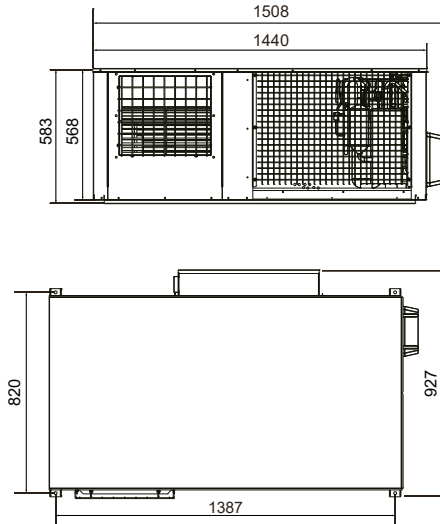

Fig. 3-1 Dimension of Air-conditioning Unit
1. Fig.3-1 is applicable for 10kW, 14kW and 16kW unit